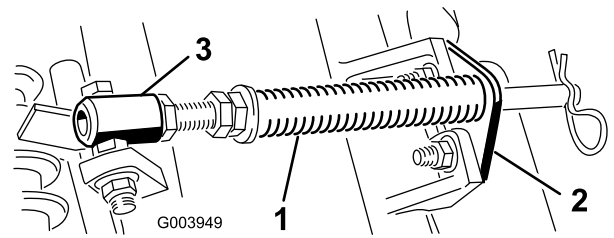

Figure 5
- A. Remove the 2 carriage bolts and nuts securing the rod bracket to the cutting unit tabs (Figure 5).
- B. Remove the flange nut securing the spring tube bolt to the carrier frame tab (Figure 5). Remove the assembly.